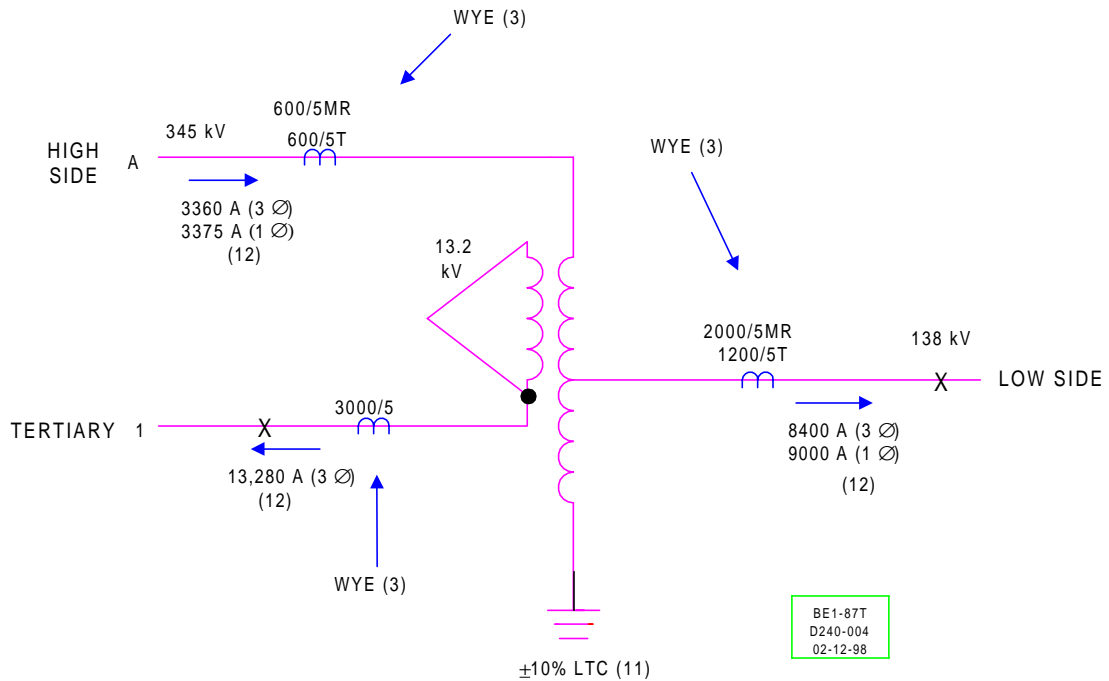

Figure 4-33. Application Example: Autotransformer With Tertiary Winding
Refer to Figure 4-33 for a one-line drawing of this example. Refer to Figure 4-32 for the three-line representation of this transformer.
Because of the grounded winding in this example, as shown in Figure 4-33 and 4-32, the high-side and low-side zero-sequence currents must be canceled. $\Delta 2$ position is selected to align the High side and Low side secondary current phasors with the Tertiary phasors which lead by 30° in this example:
Step 12. Determine the maximum CT secondary fault current for external faults (I_{F3} for three-phase, and I_{FG} for line-to-ground). Refer again to Figure 4-33 for this example. The maximum fault current is recorded for each set of terminals for all combinations of external faults.
Neglecting R_R , use R_L from Figure 4-33:
Neglecting R_R , use R_W and R_L from Figure 4-33: